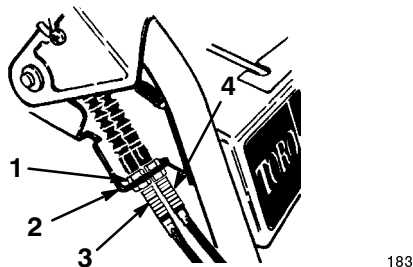

Figure 27
- Loosen the upper jam nut that secures the traction cable to the mounting bracket (Fig. 27).
- Rotate the bottom jam nut upward to increase the belt tension (Fig. 27).
- A. Loosen the upper jam nut that secures the auger/impeller cable to the mounting bracket (Fig. 27).
8. On the control cable that corresponds to the belt being replaced, loosen the jam nuts that secure the cable to the bracket (Fig. 27).